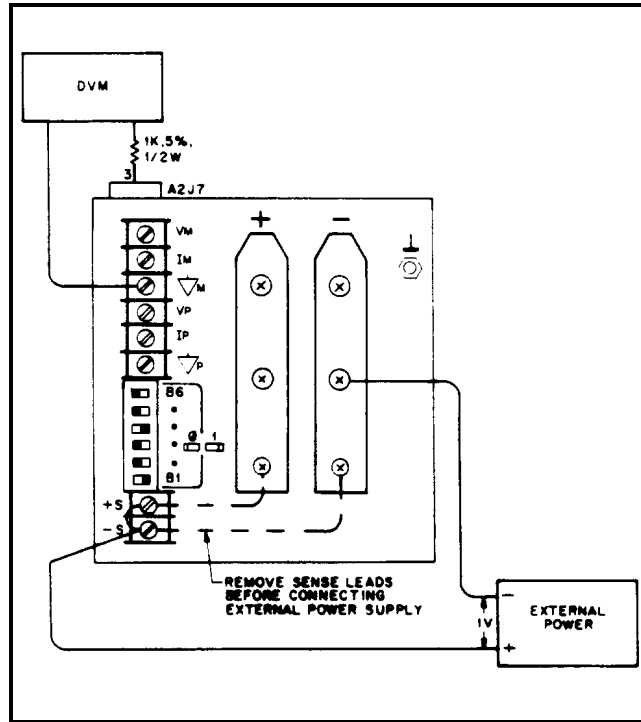

Figure 2-1. Common Mode Setup
- e. Remove both local sensing straps from rear-panel terminal block, and connect a 1-volt external power supply with its + lead to - S and its--lead to - Out. See Figure 2-1.
- a. Attach the DVM from ∇ M on the rear panel to A2J7 pin 3 (V-MON buffered). See DVM connection in Figure 2-1.